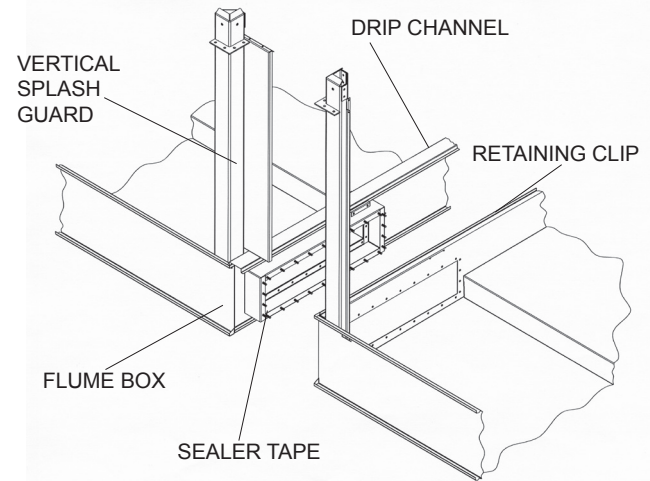

Figure 3 - Equalizer Flume Connection, Models 212-59 through 28-917 and 29-024 through 39-942.
2. Clean the flanges on the equalizer flume on the end to be field connected. Apply a layer of sealer tape on the flange centered between the hole centers and the outside edge. Remove paper backing strip from the sealer tape (see Figure 3).
9. Place the vertical splash guard in the bend of the vertical supports. On galvanized units, attach the vertical splash guard using 5/16" self-tapping screws. On stainless steel units, attach the vertical splash guard using 5/16" stainless steel nuts and bolts. (See Figure 3)